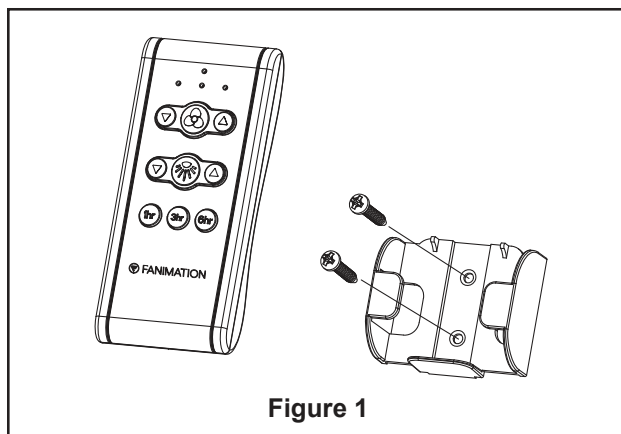

Figure 1
1. **Installing Wall Plate:** (Figure 1)